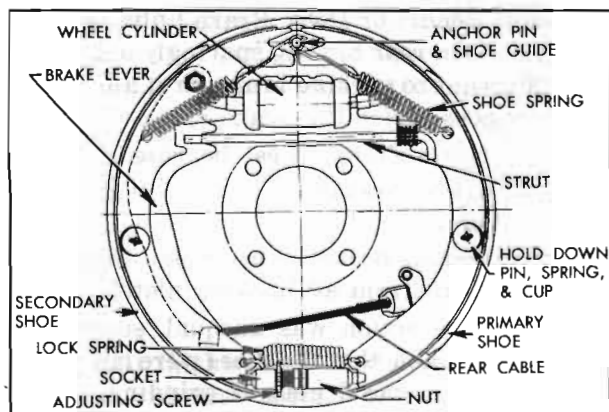

Figure 9-10—Rear Wheel Brake Assembly—Right
2. Unhook shoe return springs from anchor pin, using Brake Spring Remover KMO 526A or large pliers. Remove shoe hold down springs, spread shoes to clear wheel cylinder connecting links, remove parking brake strut (rear only), and remove shoes from backing plate. Disconnect cable from parking brake lever (rear only). See figure 9-10.
3. Separate the brake shoes by removing adjusting screw and lock spring. Remove parking brake lever from secondary brake shoe (rear only). See figure 9-10.
2. On rear brakes only, lubricate fulcrum end of parking brake lever and the bolt with Bendix or Delco Brake Lubricant, or Lubriplate, then attach lever to secondary shoe with bolt, spring washer, nut, and Pal nut. Make sure that lever is free moving. See figure 9-10.
5. Attach brake shoes to backing plate with hold down springs, pins, and cups, at the same time engaging shoes with wheel cylinder connecting links. The primary shoe (short lining) goes forward. On rear brakes, connect cable to parking brake lever and install strut between lever and primary shoe as installation is made. See figure 9-10.